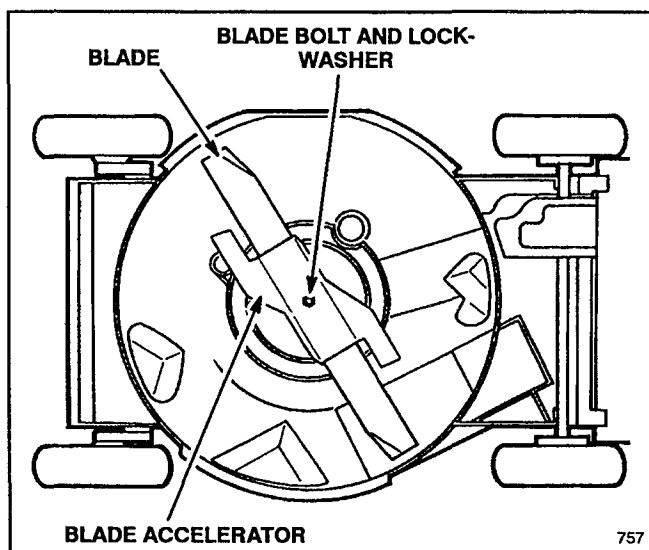

Figure 25
3. Tip mower on its right side (Fig. 25). Avoid rotating blade. Starting problems may result.
5. REMOVING BLADE—Grasp end of blade using a rag or thickly padded glove. Remove blade bolt, lockwasher, blade accelerator and blade (Fig. 25).